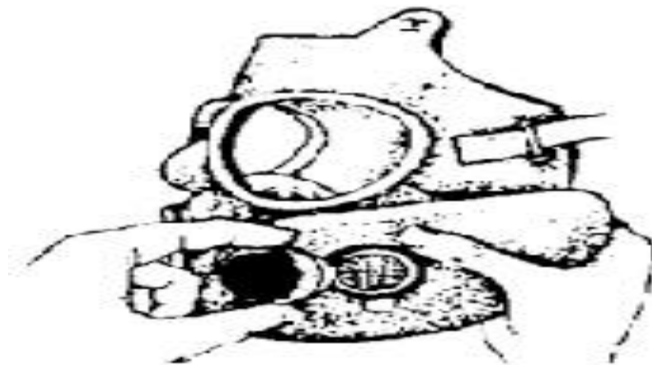

Figure E-64. Install inlet valve assembly.
i. Install the inlet valve assemblies, ensuring the Louvers are down (figure E-64).